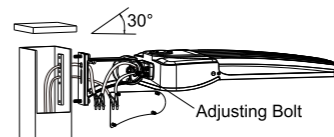

Figure 15
2. DIRECT MOUNTING (DM)
- Step 1: Fix DM bracket to square pole with bolt, open the side lid of DM bracket, pull the wire into junction box, and connect the wire correctly. (Figure 15)
- Notice: Adjustable angle is 0-30° (Figure 15).